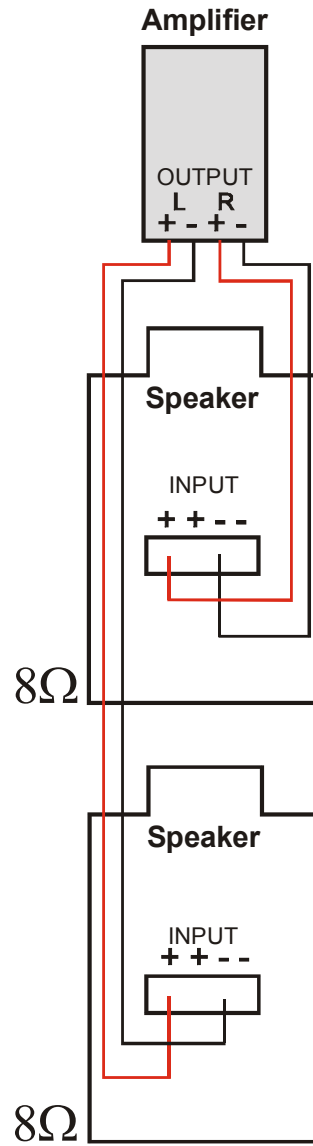

Figure 6: Connecting Two Mono Speakers
- If the size of the room requires more than one speaker, use two mono speaker models. Connect the speakers to the left and right connectors of the amplifier, respectively (see Figure 6)